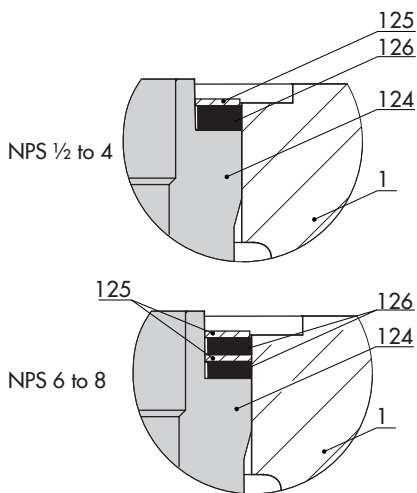

Fig. 9-4: Shims (125)
6. Measure how many shims (125) are required as described in section 9.4.5. Place the new shims (125) on the gaskets (126). See Fig. 9-4.